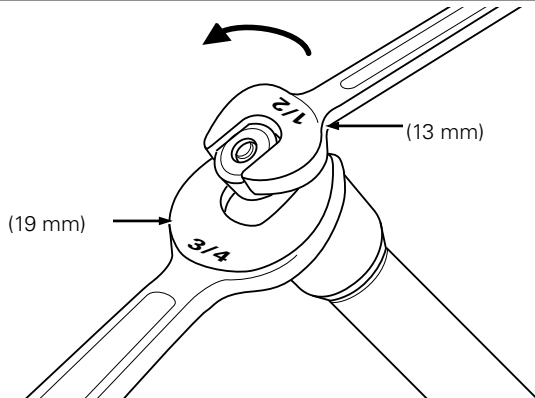

Figure 15. Remove end plug from fuse cartridge.
- Use $\frac{3}{4}$ inch (19 mm) and $\frac{1}{2}$ inch (13 mm) wrenches to remove end plug. (See Figure 15.)